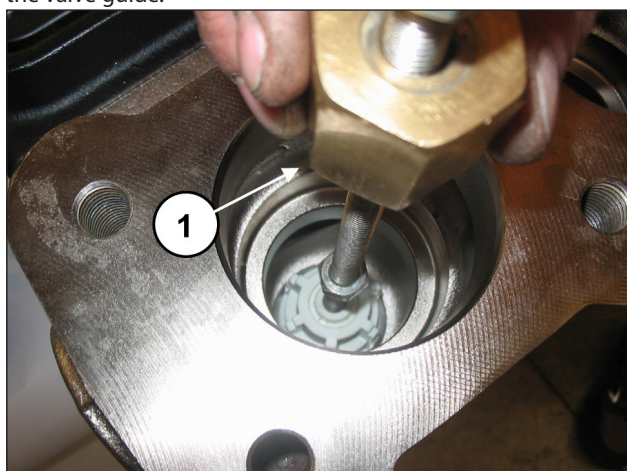

Fig. 105
Extract the suction valve unit with the use of an extractor hammer (code 27516400) to be applied on the M10 hole of the valve guide (pos. ①, Fig. 105) or, in addition, an M10-M16 adapter (code 25089700) to be attached to the M16 thread of the valve guide.